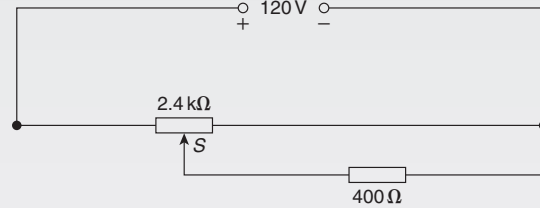
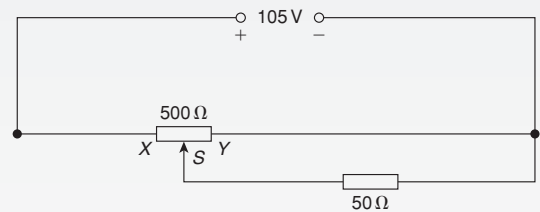
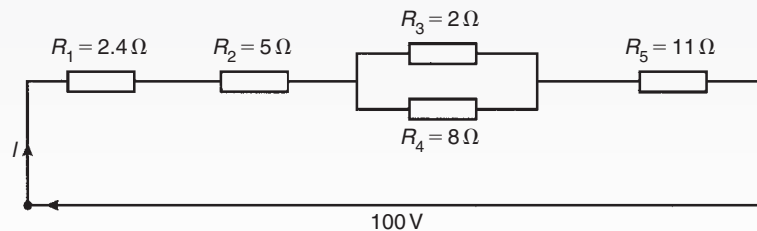

Figure RT2.2
Figure RT2.3
Figure RT2.1
- Resistances of $5\ \Omega$, $7\ \Omega$, and $8\ \Omega$ are connected in series. If a $10\ \text{V}$ supply voltage is connected across the arrangement determine the current flowing through and the p.d. across the $7\ \Omega$ resistor. Calculate also the power dissipated in the $8\ \Omega$ resistor. (6)
- For the series-parallel network shown in Fig. RT2.1, find (a) the supply current, (b) the current flowing through each resistor, (c) the p.d. across each resistor, (d) the total power dissipated in the circuit, (e) the cost of energy if the circuit is connected for 80 hours. Assume electrical energy costs 14p per unit. (15)
- The charge on the plates of a capacitor is $8\ \text{mC}$ when the potential between them is $4\ \text{kV}$. Determine the capacitance of the capacitor. (2)
- Two parallel rectangular plates measuring $80\ \text{mm}$ by $120\ \text{mm}$ are separated by $4\ \text{mm}$ of mica and carry an electric charge of $0.48\ \mu\text{C}$. The voltage between the plates is $500\ \text{V}$. Calculate (a) the electric flux density (b) the electric field strength, and (c) the capacitance of the capacitor, in picofarads, if the relative permittivity of mica is 5. (7)
- A $4\ \mu\text{F}$ capacitor is connected in parallel with a $6\ \mu\text{F}$ capacitor. This arrangement is then connected in series with a $10\ \mu\text{F}$ capacitor. A supply p.d. of $250\ \text{V}$ is connected across the circuit. Find (a) the equivalent capacitance of the circuit, (b) the voltage across the $10\ \mu\text{F}$ capacitor, and (c) the charge on each capacitor. (7)
- A coil of 600 turns is wound uniformly on a ring of non-magnetic material. The ring has a uniform cross-sectional area of $200\ \text{mm}^2$ and a mean circumference of $500\ \text{mm}$. If the current in the coil is $4\ \text{A}$, determine (a) the magnetic field strength, (b) the flux density, and (c) the total magnetic flux in the ring. (5)
- A mild steel ring of cross-sectional area $4\ \text{cm}^2$ has a radial air gap of $3\ \text{mm}$ cut into it. If the mean length of the mild steel path is $300\ \text{mm}$, calculate the magnetomotive force to produce a flux of $0.48\ \text{mWb}$. (Use the B–H curve on page 80) (8)
- In the circuit shown in Fig. RT2.2, the slider S is at the half-way point.
- Is the circuit a potentiometer or a rheostat? (5)
- For the circuit shown in Fig. RT2.3, calculate the current flowing in the $50\ \Omega$ load and the voltage drop across the load when
- point S coincides with point Y (5)